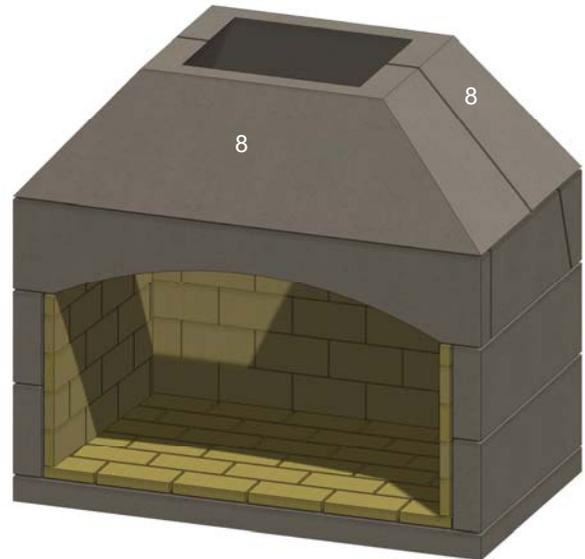

Figure 19. Throat Pieces
L. Install the tapered front and rear throat pieces (8). See Figure 19.